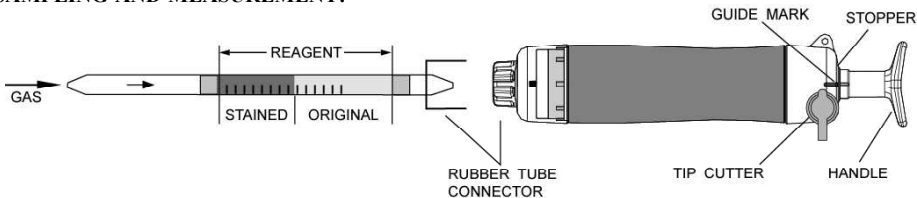

Fig.1
- ① Break both ends of detector tube.
- ② Insert the detector tube into aspirating pump securely as shown in Fig.1. (Arrow mark shall point to the pump.)
- ③ Align the guide marks on the shaft and stopper of the aspirating pump.
- ④ Pull the pump handle at full stroke until it locks and wait for 2 minutes or until the completion of sampling is confirmed with the flow indicator of the pump (See descriptions about the flow indicator in the instructions of the pump).
- ⑤ On completion of sampling, read the scale at the maximum point of the stained layer.